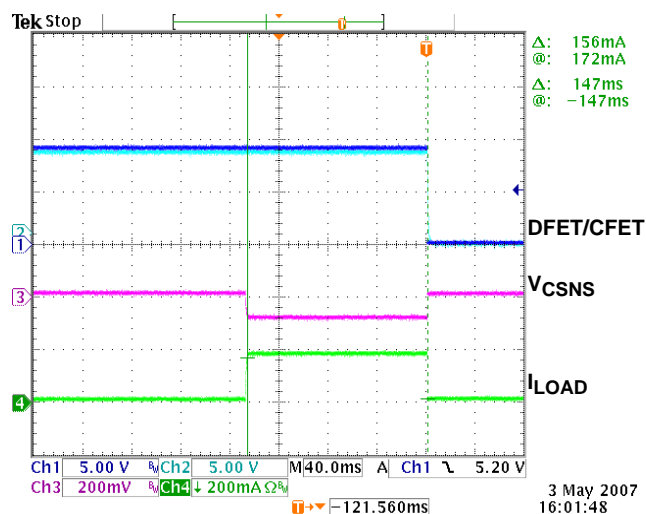

FIGURE 9. CHARGE OVERCURRENT TEST (0.1V THRESHOLD, 160ms TIME DELAY, 0.5Ω SENSE RESISTOR)
- Turn the charge emulation power supply output on. This causes the ISL9208 to detect an overcurrent condition, which turns the FETs off. Figure 9 shows a charge overcurrent condition where the charger turns on with current too high.